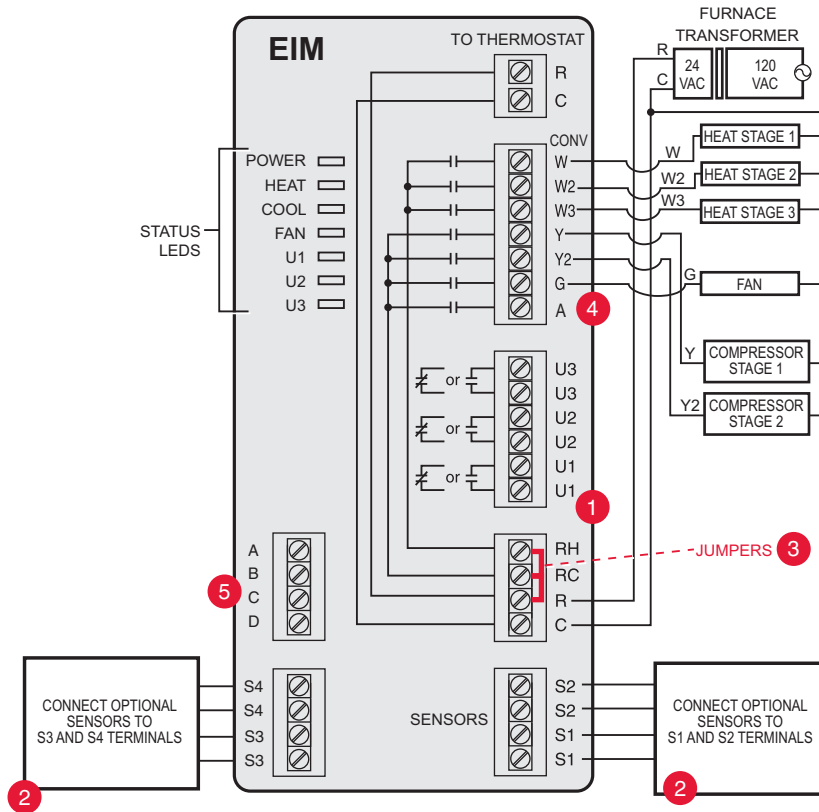

Fig. 324. EIM wiring guide – conventional systems.
All wiring must comply with local electrical codes and ordinances. See Fig. 324–332.
6. See Fig. 324–332 for typical wiring hookups.